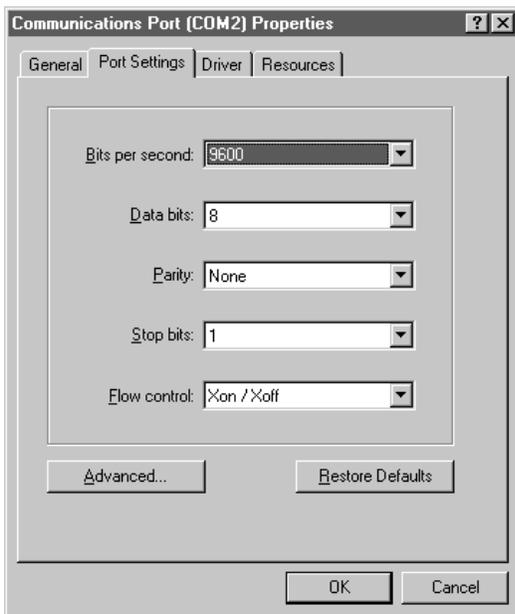

Figure 8-6: COM Port Properties Dialog Box
12. This should bring up the dialog shown in Figure 8-6.